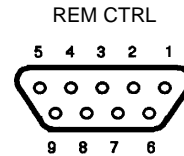

Fig. 10 Wiring of the REM CTRL socket
**Key to Fig. 10**
The inputs are pulse inputs and must be driven with bounce-free pulses. Pulse duration 10 to 100 ms approx. Both inputs operate alternately and may therefore not be activated at the same time. The minimum time between two input pulses is 0.5 ms approx. The wiring of the 9-way REM CTRL socket is given in Fig. 10.